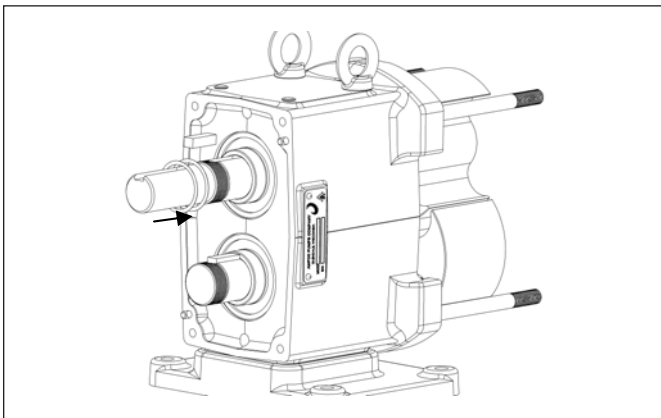

Figure 41. Gear Shim Installation
**Assembly:** Apply a light film of lubricant to the o-rings and insert them into all components. Slide the ceramic flush sleeve on the shaft until it seats on the shaft shoulder. Align the slot in the sleeve to the drive pin on the shaft (*Figure 41, A*). Slide the mechanical seal